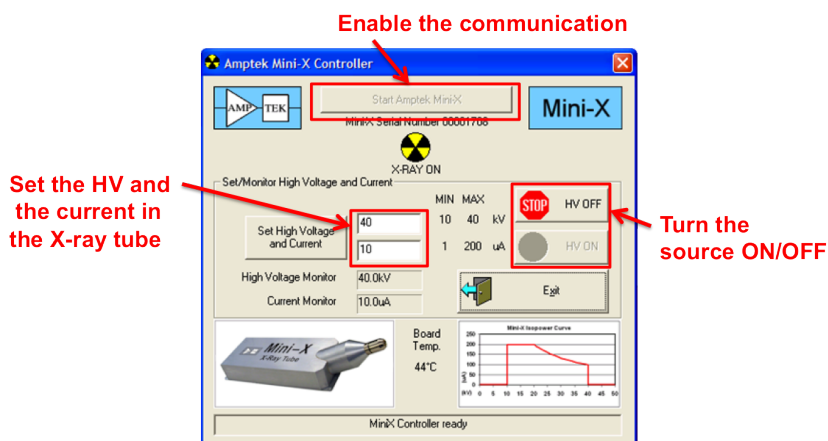

Figure 5.8: QC5 Amptek miniX control software.
5. Open the miniX control software (Fig. 5.8), click on "Start Amptek MiniX" to enable the communication with the X-ray source. Set the HV value of the X-ray tube to 40 kV and the current to 5 μ A, then click on "Set High Voltage and Current" to apply the new values. Do not turn the X-ray source ON at